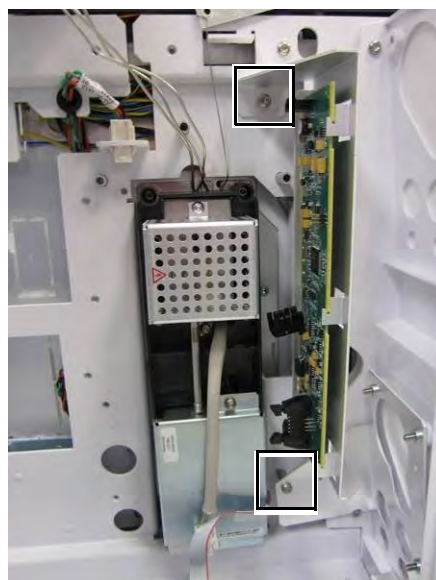

Figure 20 3rd detector box assembly
- 4 Install the detector PCA frame and interface board assembly into the third detector box assembly frame using the two captive screws. See Figure 20.